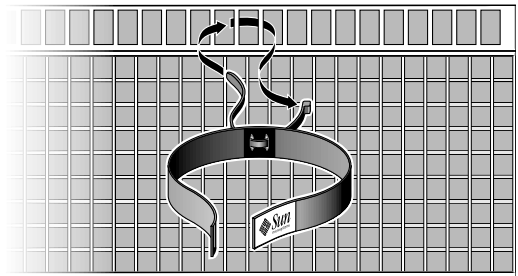

FIGURE 3 Cable Hanger Strap at Air Plenum
3. Depending on your configuration requirements, securely tie the 6.0 in. (15.2 cm) black cable hanger straps (No. 3), with the Sun label and tie wrap, to the cutouts of the air plenum using the tie wrap (FIGURE 3).